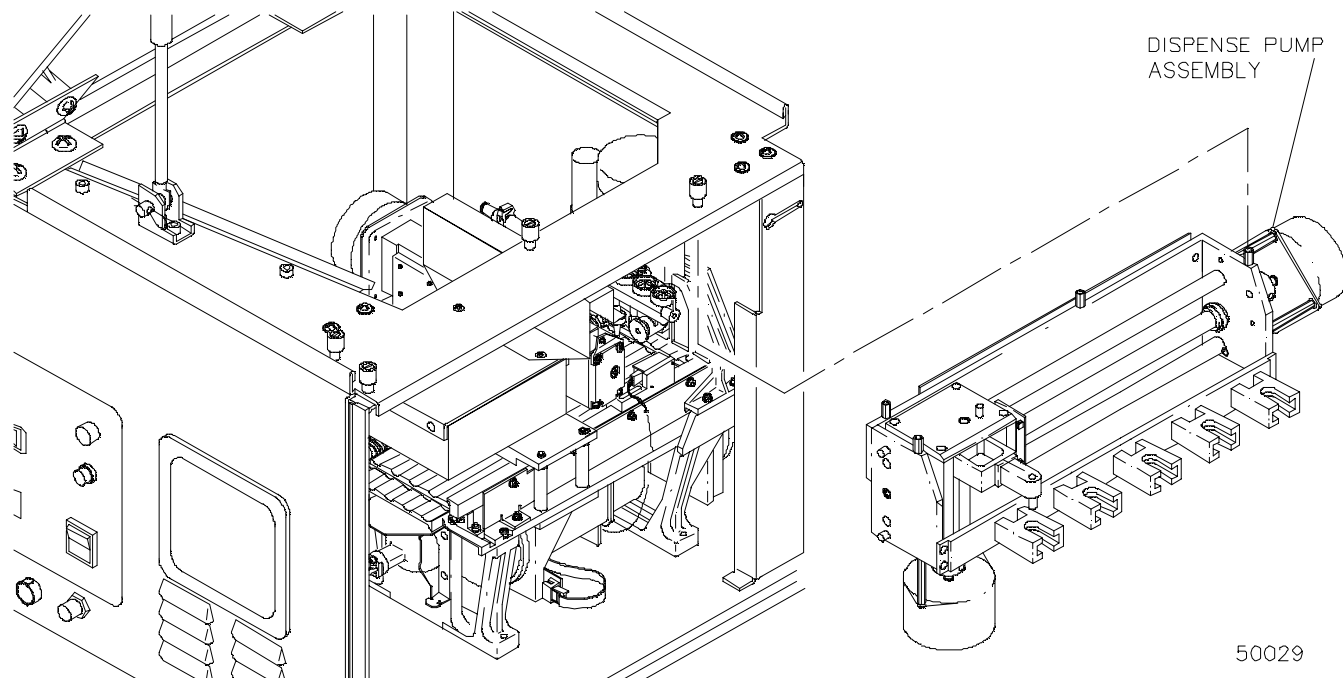

Figure 4-29. Dispense Pump Assy
8. Remove assy mounting hardware from four places (**Figure 4-29**).